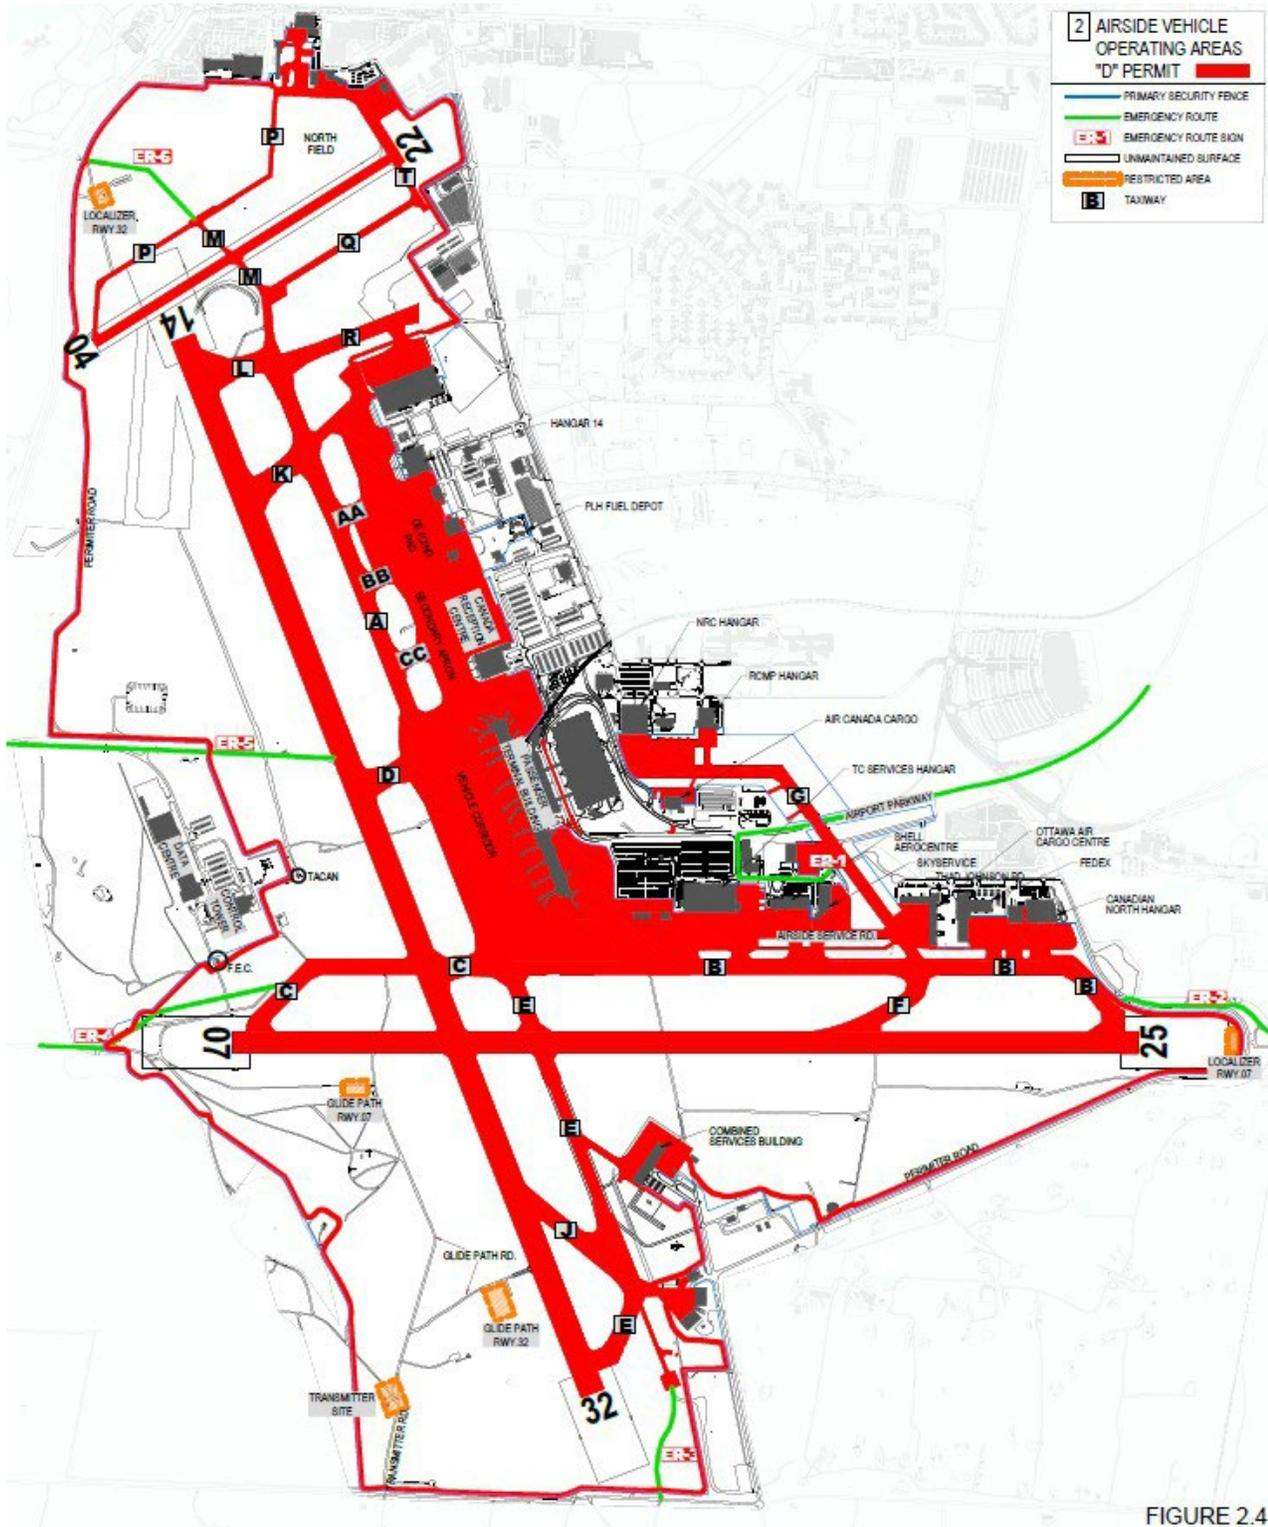

FIGURE 2.4
3. **AVOP-D:** Runways and Taxiways (Figure 2.4)